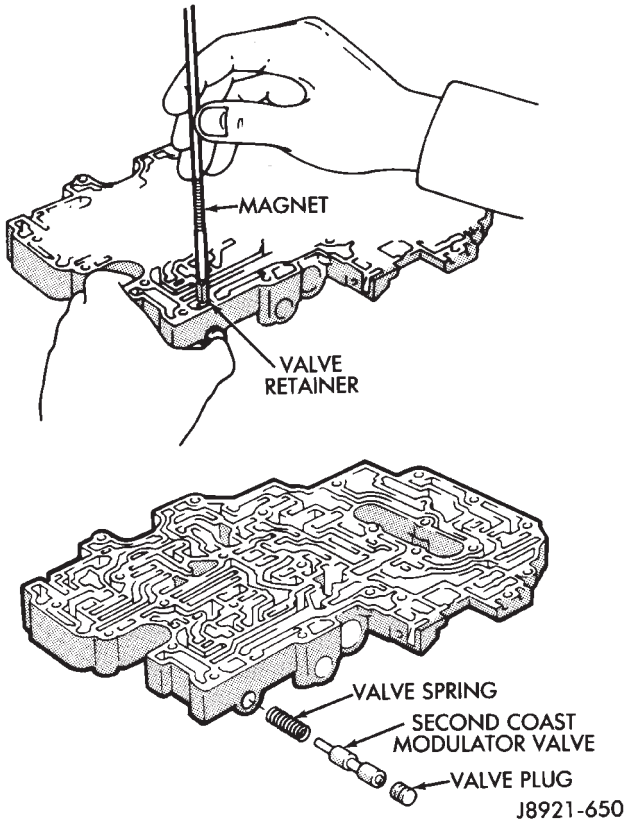

Fig. 7 Removing/Installing Second Coast Modulator Valve
(9) Install second coast modulator valve, spring and plug in valve bore. Press plug inward and install retainer (Fig. 7).